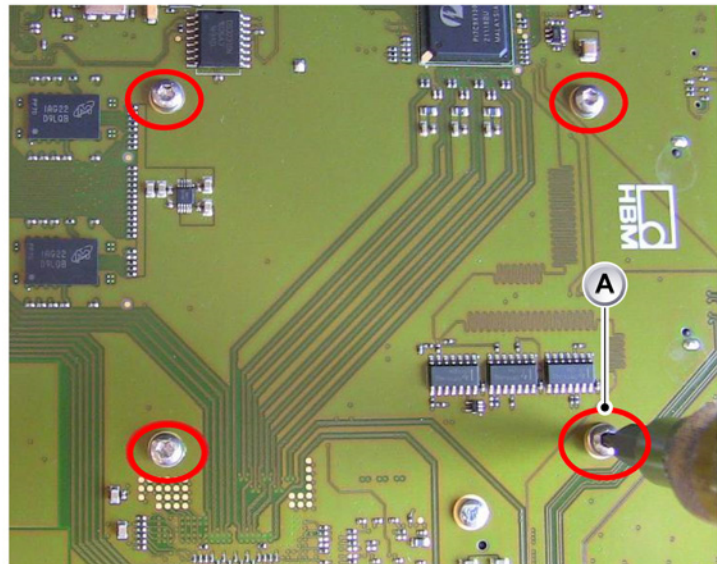

Figure E.9: Removal of the SSD disk (Part 1)
- 1 Turn the IM2 module over so you are looking at the backside as show in Figure E.9.